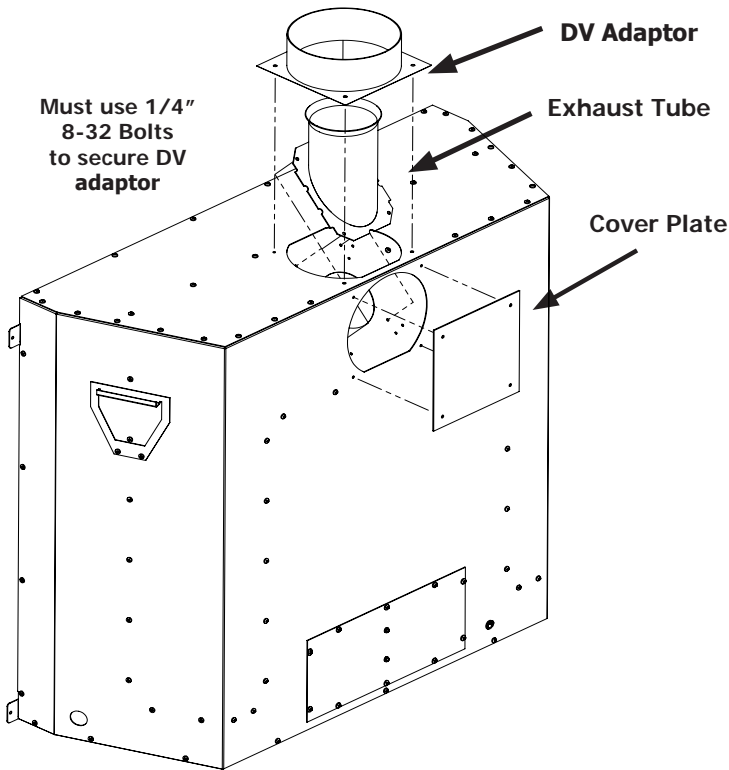

Figure 13. Vent Conversion - Step 1
**Step 1:** Using a T-20 screwdriver remove the DV Adaptor, Exhaust Tube, and cover plate (12 screws total) as shown in Figure 13.